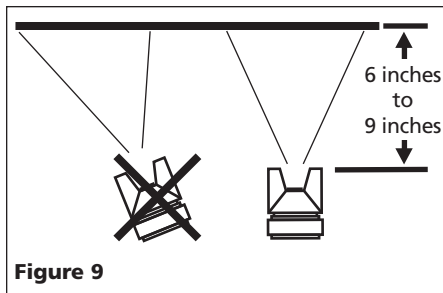

Figure 9
1. Begin spraying. Always keep the gun at right angles to the work by flexing your wrist while making the paint stroke (See Figure 9).